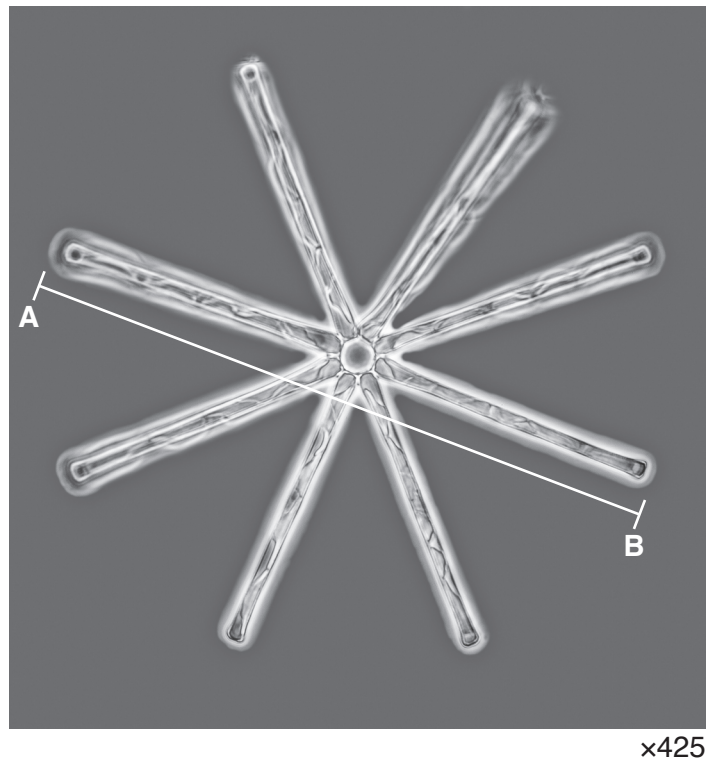

Fig. 2.1
- 2 Fig. 2.1 shows *Asterionella*, which are microscopic algae that live in fresh water.
- (ii) Measure the length of the line **AB** in Fig. 2.1. Include the unit.
Use the formula to calculate the actual diameter of the algae shown in Fig. 2.1. Include the unit.